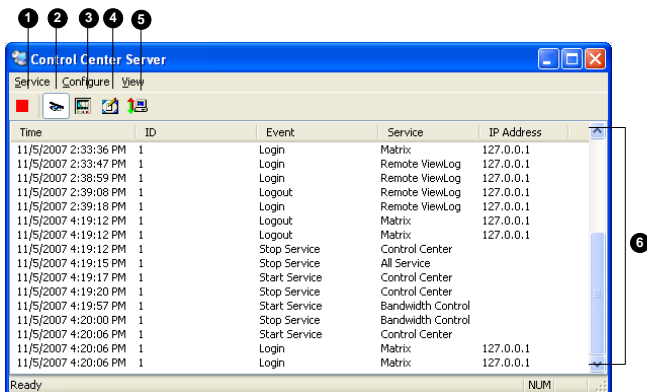

Figure 4-8
1. The client DVR must activate **Control Center Service** (No. 2, Figure 4-8) first.
1. The client DVR must activate **Remote Desktop Service** (No. 4, Figure 4-8) first.
1. The client DVR must activate **Remote ViewLog Service** (No. 3, Figure 4-8) first.
1. The client DVR must activate **Control Center Service** (No.2, Figure 4-8) first.